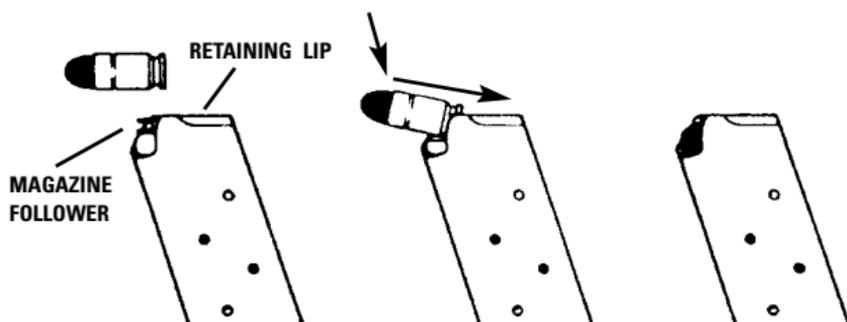

FIGURE 3 - LOADING MAGAZINE
3. With open end uppermost, grasp the magazine in one hand. Place a round on the magazine follower with the base of the round just forward of the retaining lips (see Figure 3) Press the round down and back until the base of the round touches the rear flat edge of the magazine. Place the next round on top of the previous round and press down and back. Repeat until the magazine is loaded, but do NOT exceed its capacity. For magazine capacity, see Section 2 - Main Features.